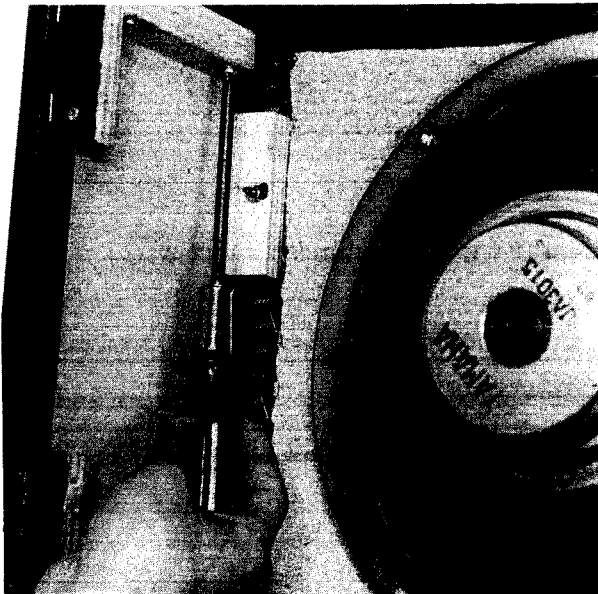

Figure-2
2. To remove the amp unit from the cabinet, pull it forward as shown in Figure-2.